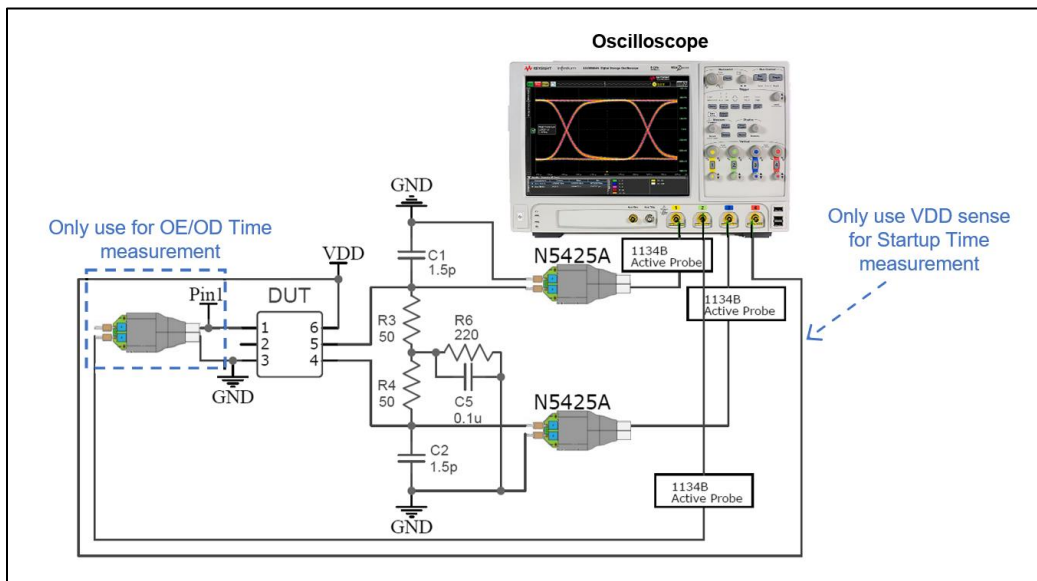

Figure 7. Test setup to measure FlexSwing Output Waveform Characteristics, Current Consumption^[17], Output Enable/Disable Time, and Startup Time
14. See Figure 7 for the test setup to measure LVPECL Current Consumption with Termination 1 or without Termination.